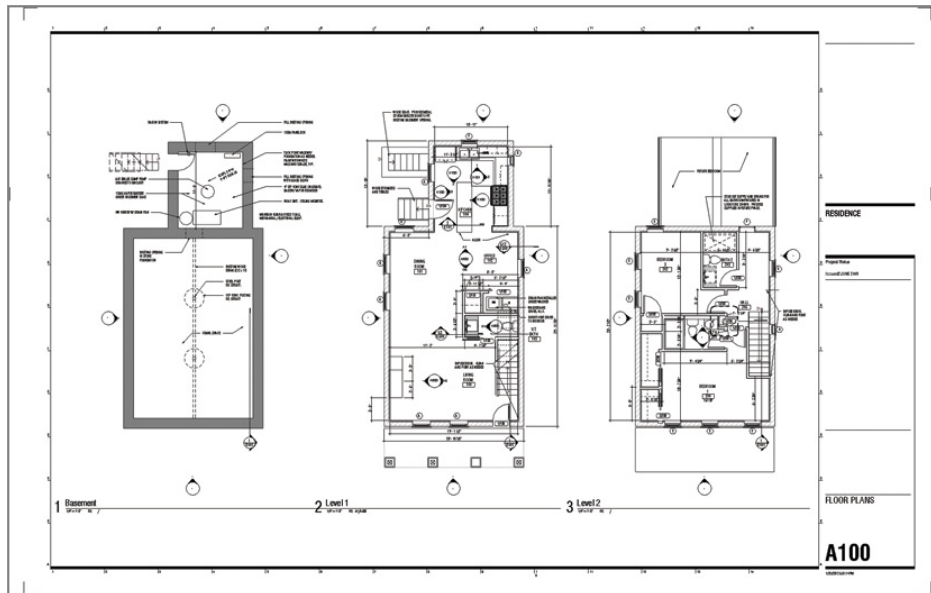

FIGURE 12.18 The edited view tag
3. Using the blue grips on the view tag line, drag the right grip closer to the end of the Basement text. The tag looks like Figure 12.18.